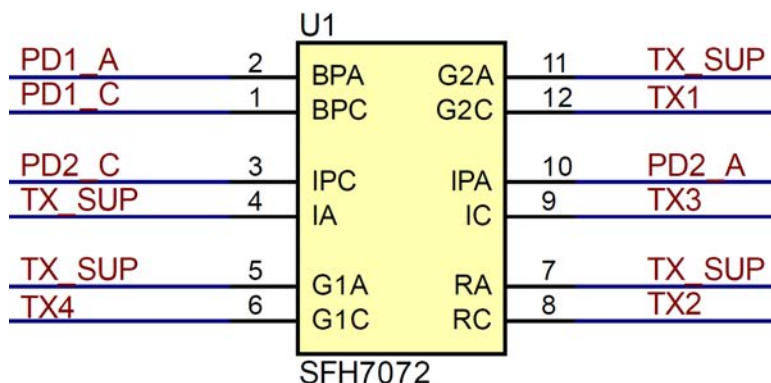

Figure 2. AFE4900 Sensor Board - OSRAM SFH7072 Connections
- (a) The AFE4900 sensor board has the optical sensor module: OSRAM SFH7072. The OSRAM sensor has two green LEDs, one red LED and one infrared LED. All the LEDs are configured in push-pull (common anode mode). By default, both the green LEDs are connected to LED1 (the TX1 pin of AFE4900), the red LED is connected to LED2 (the TX2 pin of AFE4900), and the infrared LED is connected to LED3 (the TX3 pin of AFE4900). One out of two green LEDs (that is, G1) can be connected to LED4 after some board changes (that is, remove R1 and populate R2). The OSRAM sensor connections are shown in Figure 2.